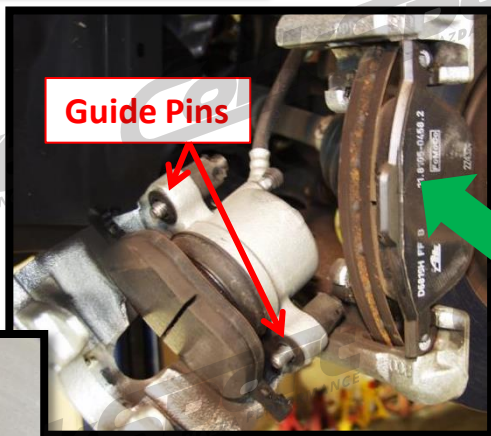
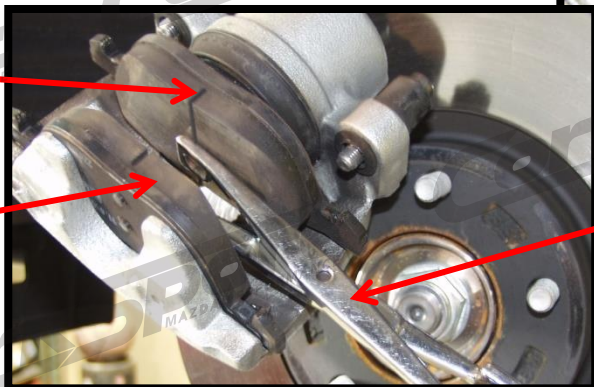

Figure 1f
Figure 1g
- g) Pull the caliper off of the bracket exposing the brake pads (Figure 1f).
- h) Transfer the outer brake pad from the bracket to the caliper (as shown in Figure 1g).
- i) Using the spreader tool and the old brake pads, push the caliper piston fully back inside of the caliper (Figure 1g).
- h) Next, transfer the original outer brake pad still in the bracket (green arrow in Figure 1f) to the caliper (as shown in Figure 1g).